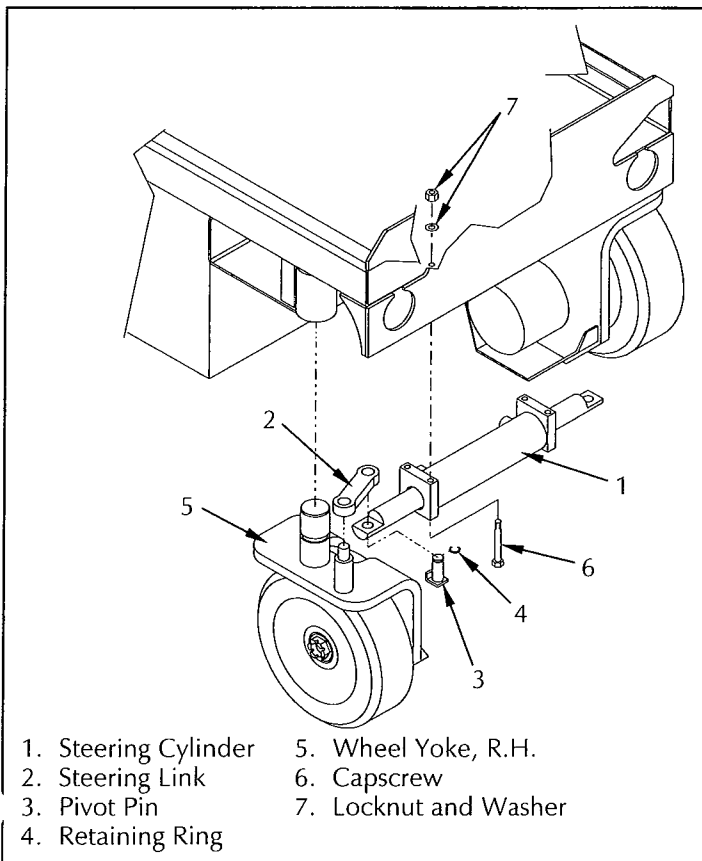

Figure 4-17: Steering Cylinder Installation
4.11 Steering Cylinder (Figure 4-17)